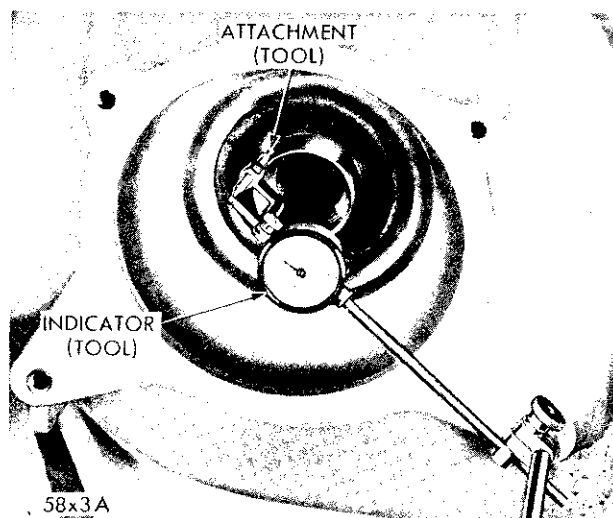

Fig. 100—Checking Torque Converter Hub Runout (Typical)
(1) Install attachment, Tool C-3613, to dial indicator set, Tool C-3339, as shown in Figure 100.
(2) Install dial indicator support rod in one of the transmission to torque converter housing mounting bolt holes, as shown in Figure 100. Disconnect at coil to distributor secondary cable.
(3) With the remote control starter switch, Tool C-763, properly installed at a convenient "hot" terminal, crank the engine while noting indicator needle deflection. Torque converter hub runout must not exceed .004 inch.